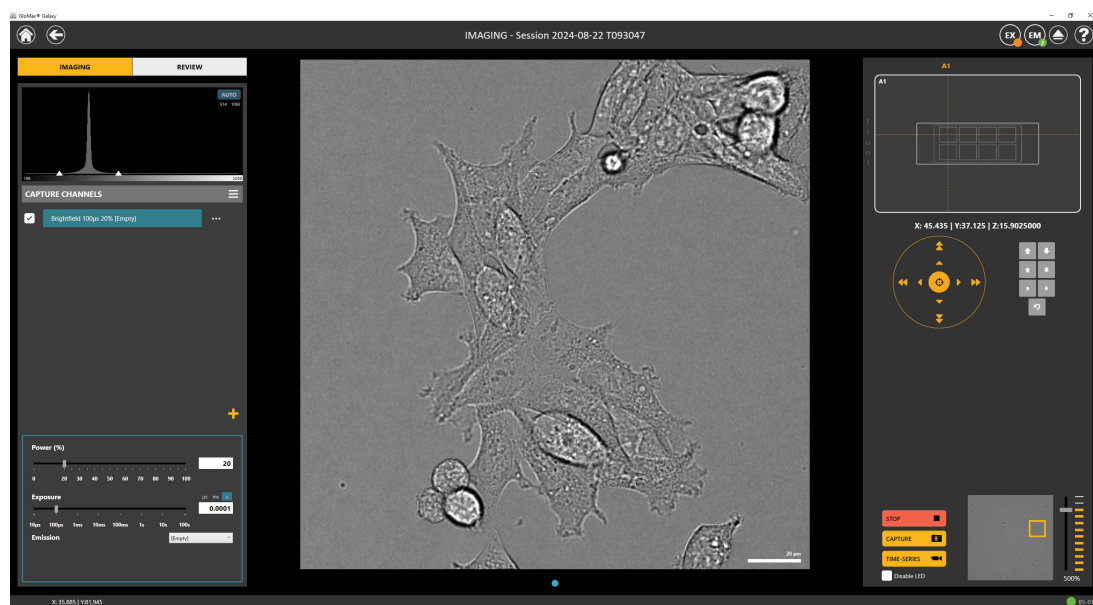

Figure 13. Digital zoom and live-view thumbnail.
10. A digital zoom feature (Figure 13) enables the user to zoom in on as little 1/10 of the full field of view to see sample detail. The portion of the field of view on screen is highlighted by the yellow box in the live-view thumbnail at the lower right of the 'Imaging' screen. The zoomed region will default to the center of the field of view as the slider is adjusted but may then be dragged to any portion of the image thumbnail. Captures and Time Series initiated with digital zoom active will save a full-field image.